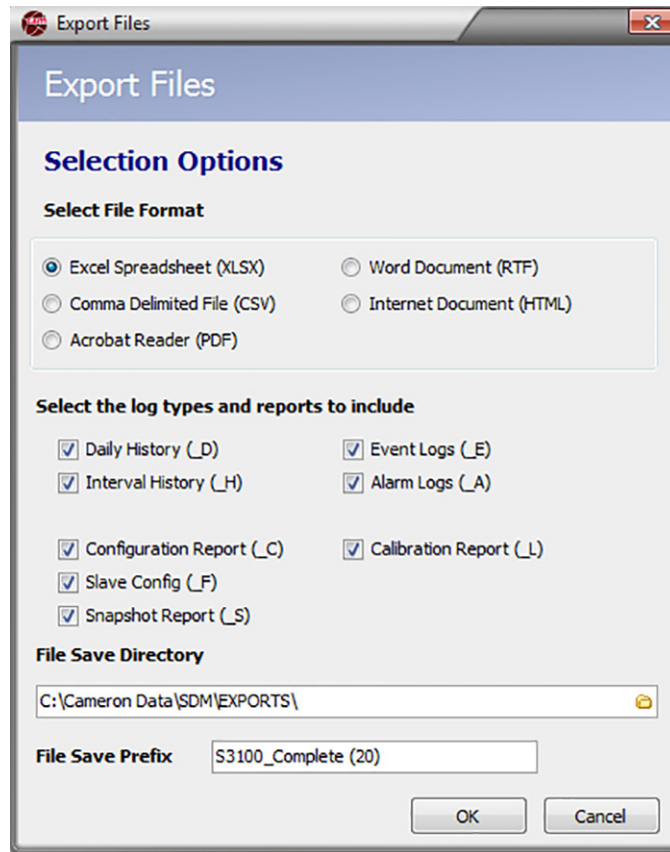

Figure 3.3—Export Files dialog
2. Select the desired file format, log types and reports from the options (Figure 3.3, page 32).
3. Note the filepath (Figure 3.3) and change if necessary. By default, export files are saved to the “C:\Cameron Data\SDM\Exports” directory on the user’s hard drive.
2. Click on the **Email Data** button in the left column of the screen and click the appropriate **Email All as...** selection from the dropdown menu (Figure 3.3, page 32).